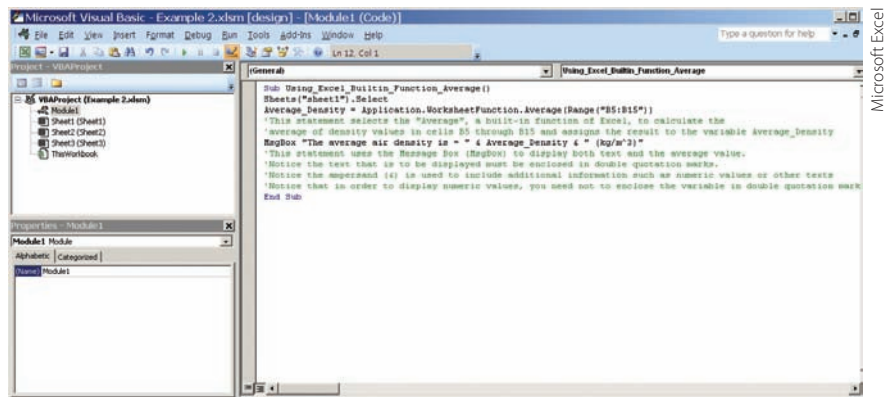

FIGURE 14.50
2. Launch the Visual Basic editor, click on **Insert**, and then choose **Module** and type in the code shown here (see also Figure 14.50).